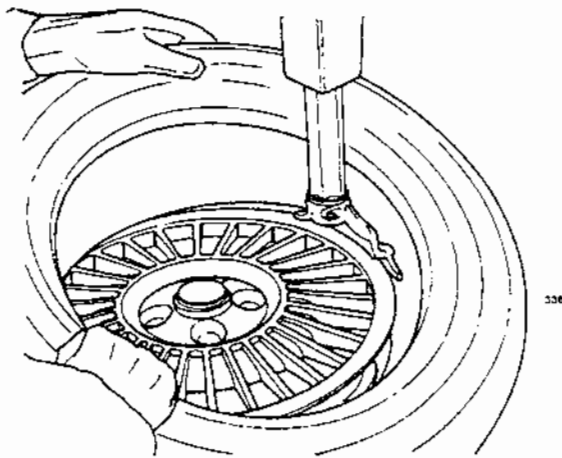

Fig.20
B. Lock the rim to the turntable and rotate it so that the valve is at the 2 o'clock position. Place the tire to be mounted on the rim. Move the mount/demount head toward it s forward working position. (Fig. 20) Engage the lower bead **OVER** the mount/demount head and **UNDER** the mounting finger of the mount/demount head (Fig.20). Turn the wheel clockwise (right pedal down) while simultaneously pushing the tire down into the drop center, opposite to the mount/demount head.